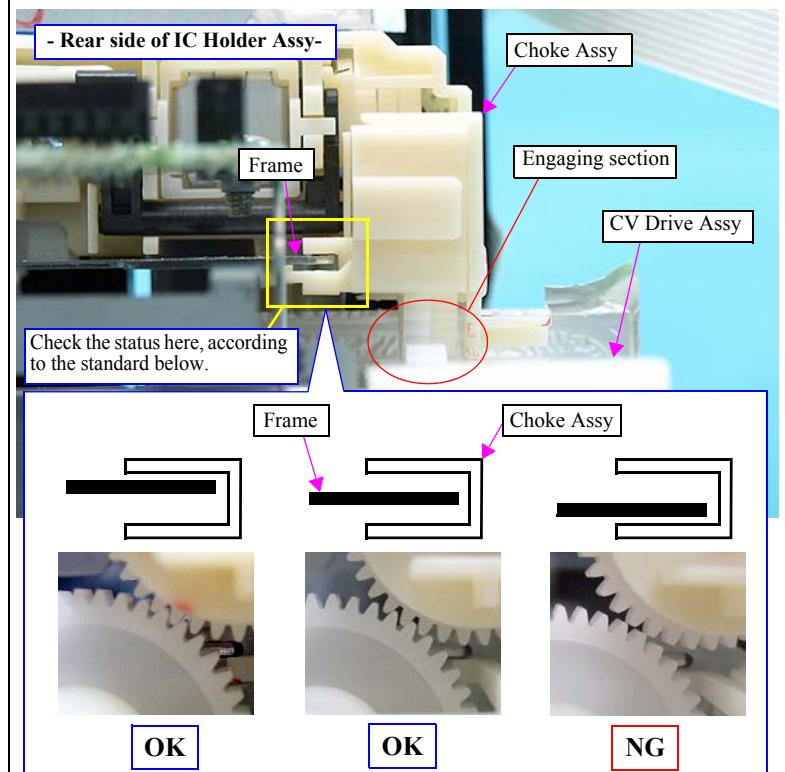
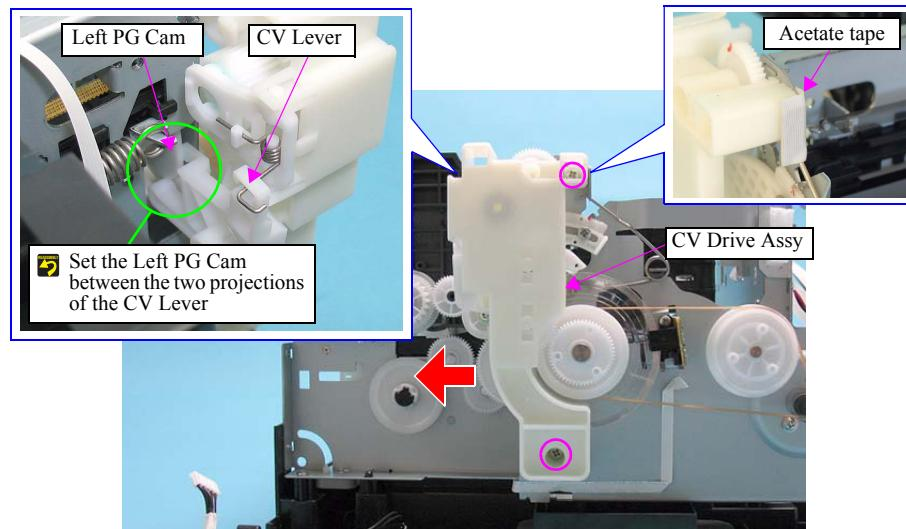

Figure 4-95. Check for Engagement of the CV Drive Assy and the Choke Assy
Figure 4-98. Removing the CV Drive Assy
6. Return to the step 3, and check the status according to the standard shown in Figure.4-95.
NOTE: If NG according to the standard shown in Figure.4-95, the reasons might be because the acetate tape (Figure.4-98) attached to the CV Drive Assy is folded and prevents the Choke Assy from staying in the right position. In such a case, unfold the tape taking care not to damage the Ink Tube, and secure the Choke Assy once again.
- Set the CV Lever of the CV Drive Assy as shown in Figure 4-98.